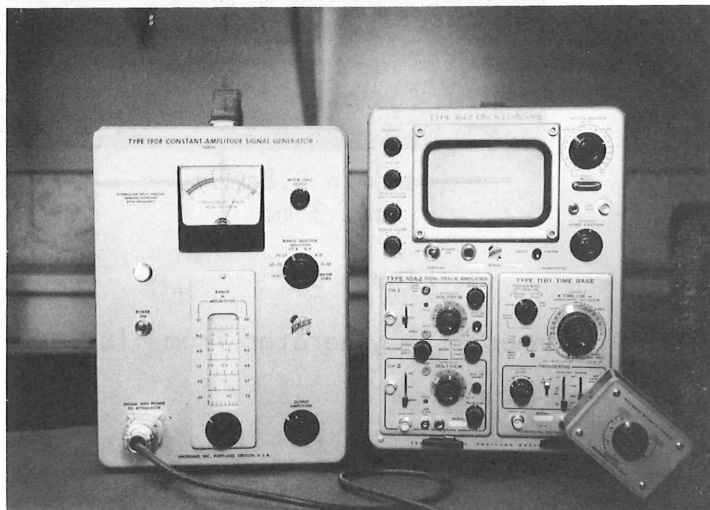

Figure 32
2. Connect the type 190B sine-wave generator to the EXT. TRIG or HORIZ. INPUT connection using a UHF to BNC adapter. See Figure 32.